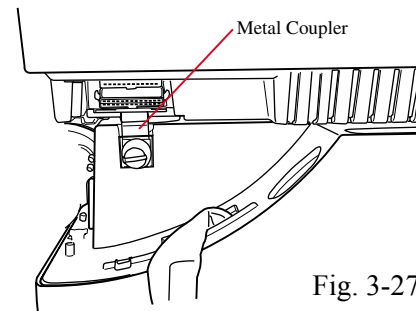

Fig. 3-27
- A. The metal coupler is fixed to the rear left area by a thumbscrew (see Fig. 3-27).
- B. Loosen the thumbscrew, and hook the leading edge of metal coupler onto the engine base (see Fig. 3-27).